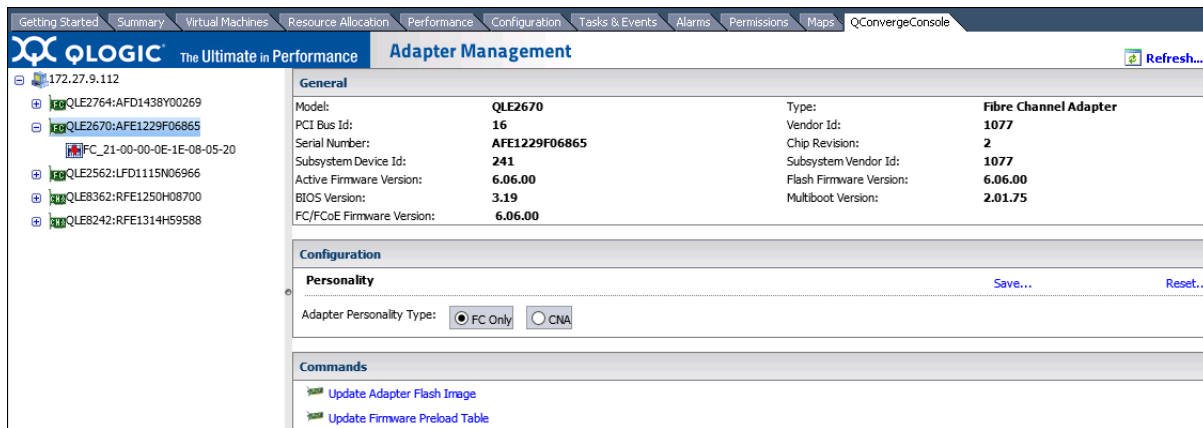

Figure 3-16. Changing Personality Type Using QConvergeConsole Plug-in for VMware vCenter Server
2. In the content pane under **Configuration**, select an **Adapter Personality Type** as shown in Figure 3-16.